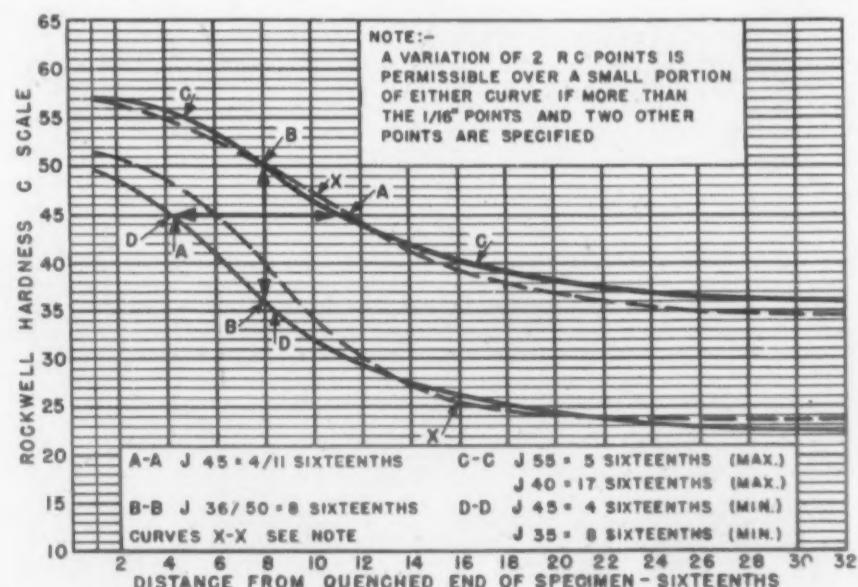

Fig. 6—Methods of specifying hardenability requirements.
is illustrated in Fig. 6 as points A-A and is commonly written $J_{45} = 4/11$ sixteenths.
- B. *The minimum and maximum hardness values at any desired distance.* This method is illustrated in Fig. 6 as points B-B and is commonly written $J_{36/50} = 8$ sixteenths. Obviously, the distance selected would be that distance on the end-quench test bar which corresponds to the section size used.
- C. *Two maximum hardness values at two desired distances* as shown in Fig. 6 as points C-C.
- D. *Two minimum hardness values at two desired distances* as shown in Fig. 6 as points D-D.
curves X in Fig. 6.
A particularly good example of the savings in fuel that may be obtained by the resistance welding method is the resistance brazing job shown in Fig. 6. The bushing in the box in the upper right hand corner was brazed by the use of two carbon electrodes mounted in a standard press welder. The amount of silver alloy was controlled by the use of a silver